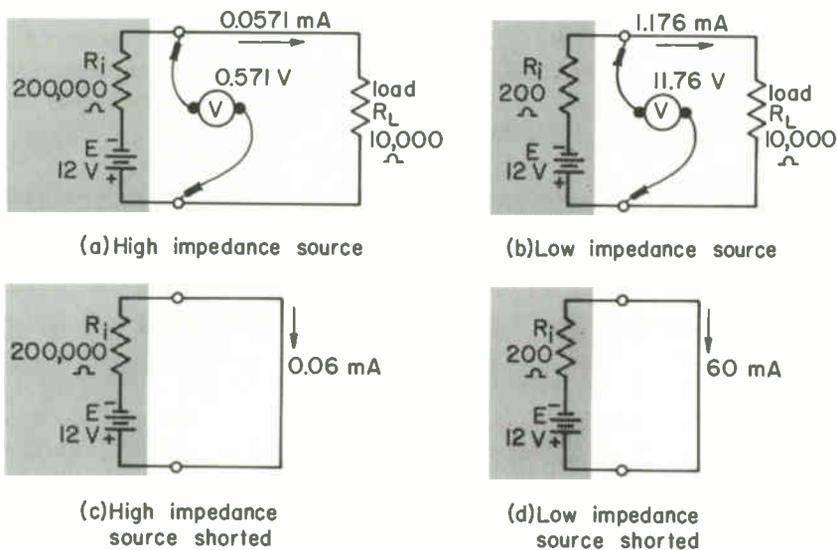

Fig. 39 Effects of high- and low-source impedances on voltages and currents.
Some characteristics of high- and low-resistance sources are shown in Fig. 39. In the high-resistance source (a), note that the source voltage drops from an open-circuit value of 12 V down to only 0.571 V when furnishing current to a 10,000- Ω load. For the same load, the voltage of the low-resistance source (b) drops very little—from 12 V down to 11.76 V. Note also the much lower current delivered to the load by the high-resistance source: 0.0571 mA, as compared to 1.176 mA for the low-resistance source.
- 46 Varying the load resistance doesn't affect the current from a high-resistance source very much. Note in Fig. 39(c) that short-circuiting the high-resistance source produces a current of only 0.06 mA, which is only slightly more than the current of 0.0571 mA required for a load of 10,000 Ω . Shorting a low-resistance source, as in Fig. 39(d), greatly increases the current—from 1.176 mA in Fig. 39(b) to 60 mA in (d).